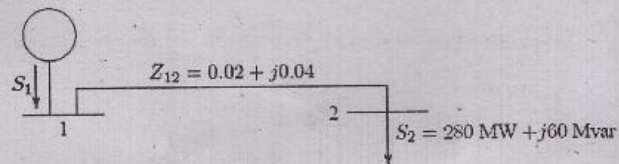

Fig. 3
- (b) In the power system network shown in figure 3, bus 1 is slack bus with $V_1 = 1.0 + j0.0$ per unit and bus 2 is a load bus with $S_2 = 280 \text{ MW} + j60 \text{ MVar}$. The line impedance on a base of 100 MVA is $Z = 0.02 + j0.04$ per unit. Using gauss-seidel method, determine V_2 . Use an initial estimate of $V_2^{(0)} = 1.0 + j0.0$ and perform four iterations. Also find S_1 and the real, reactive power loss in the line, assuming that the bus voltages have converged.